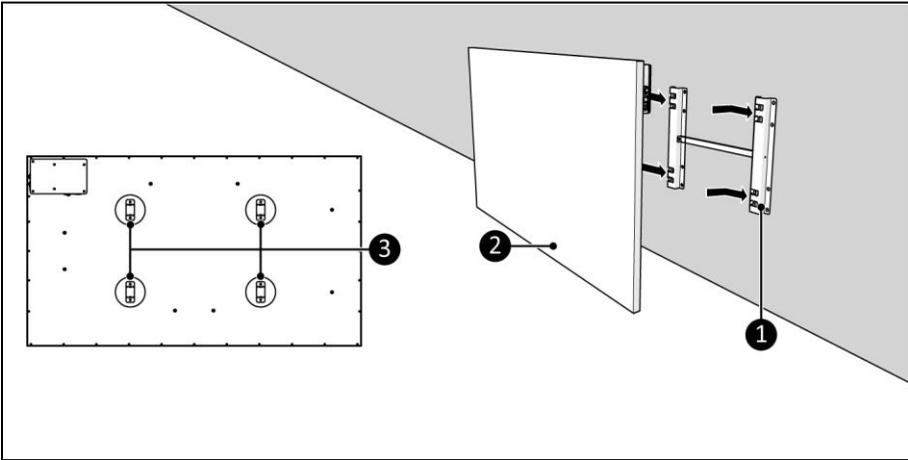

Figure 11
5. Place the device brackets (Figure 11, pos. 3) over the wall bracket (Figure 11, pos. 1).
6. Slide the device (Figure 11, pos. 2) into the openings of the wall bracket (Figure 11, pos. 1).